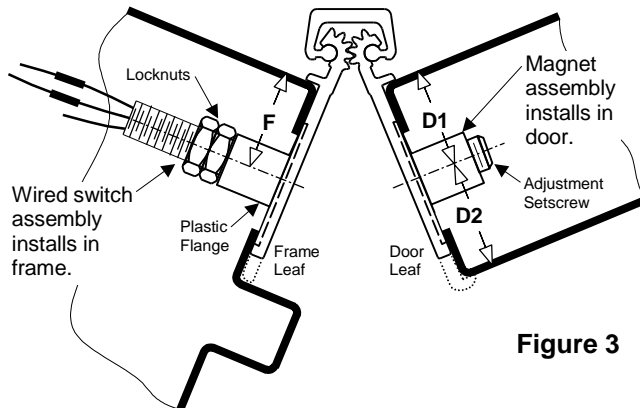

Figure 3
2. Locate the wired switch assembly. Peel the adhesive liner from the face of the flange. Attach it in the counter bore on the back of the hinge leaf that will be mounted to the frame. See Figure 3.
Peel the adhesive liner from the face of the flange. Attach the magnet assembly in the counter bore on the back of the hinge leaf that will be mounted to the door. See Figure 3.
2. Connect the system wiring to the appropriate leads of the switch. See Figure 3. Insulate the bare end of any unused wires.